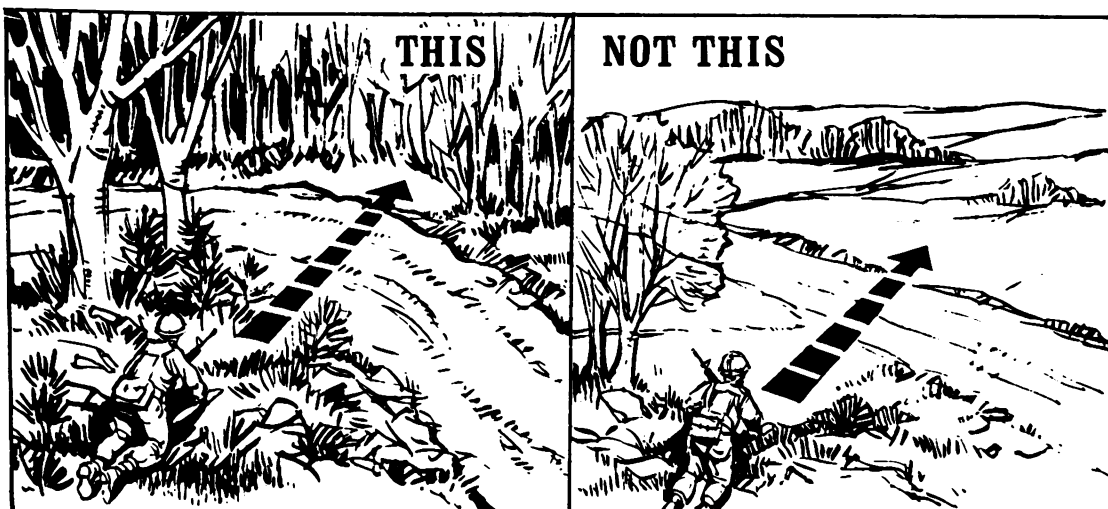

Figure 3.
4. To cross roads, trails, or small streams, select a point at or near a bend in the road or stream—if possible, a bend that has concealment and cover on both sides. This will offer less chance of being seen by the enemy when crossing. Crawl up to the edge of the open area and observe the other side carefully before crossing. Cross rapidly but quietly. Get down on the other side; check the area around you (figure 3).